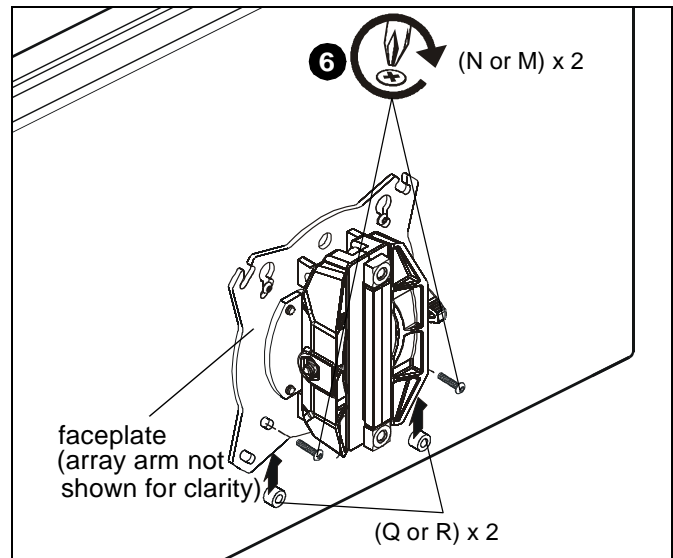

Figure 13
5. Slide two remaining selected spacers (Q or R) in between faceplate and display, positioning them over the lower two mounting holes. (See Figure 13)
6. Install two remaining selected screws (N or M) through lower two mounting holes on faceplate, selected spacers (Q or R) into the lower mounting holes on the display. (See Figure 13)